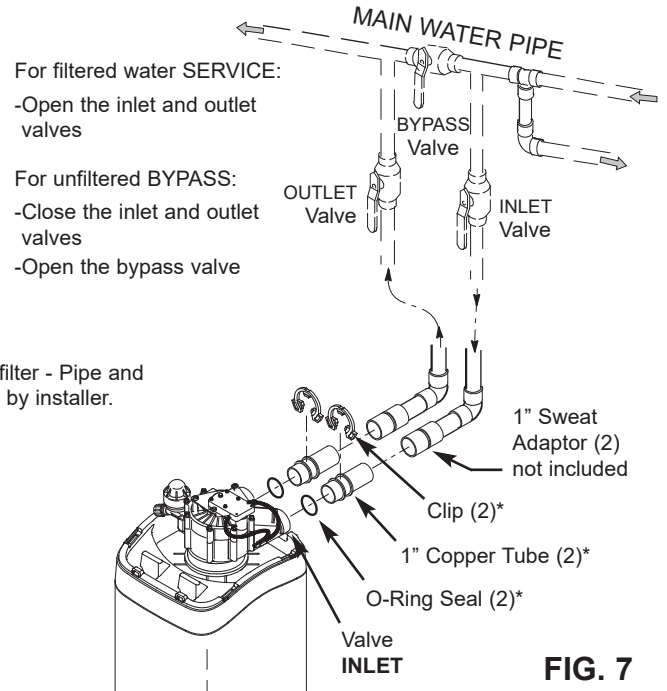

FIG. 7
- b. If installing a 3-valve bypass system, slide plastic installation adaptor and copper tube, with lubricated o-ring seals in place, into the valve inlet and outlet ports, respectively (See Figures 7 & 9).
The house cold water pipe (metal only) is often used as a ground for the house electrical system. The 3-valve bypass type of installation, shown in Figure 7, will maintain ground continuity. If you use the plastic bypass, continuity is broken. To restore the ground, do the following:
- b. Place bypass valve(s) into "bypass" position. On a single valve, slide the stem inward to BYPASS (See Fig. 8 on page 6). On a 3 valve system, close the inlet and outlet valves, and open the bypass valve (See Fig. 7 on page 6).